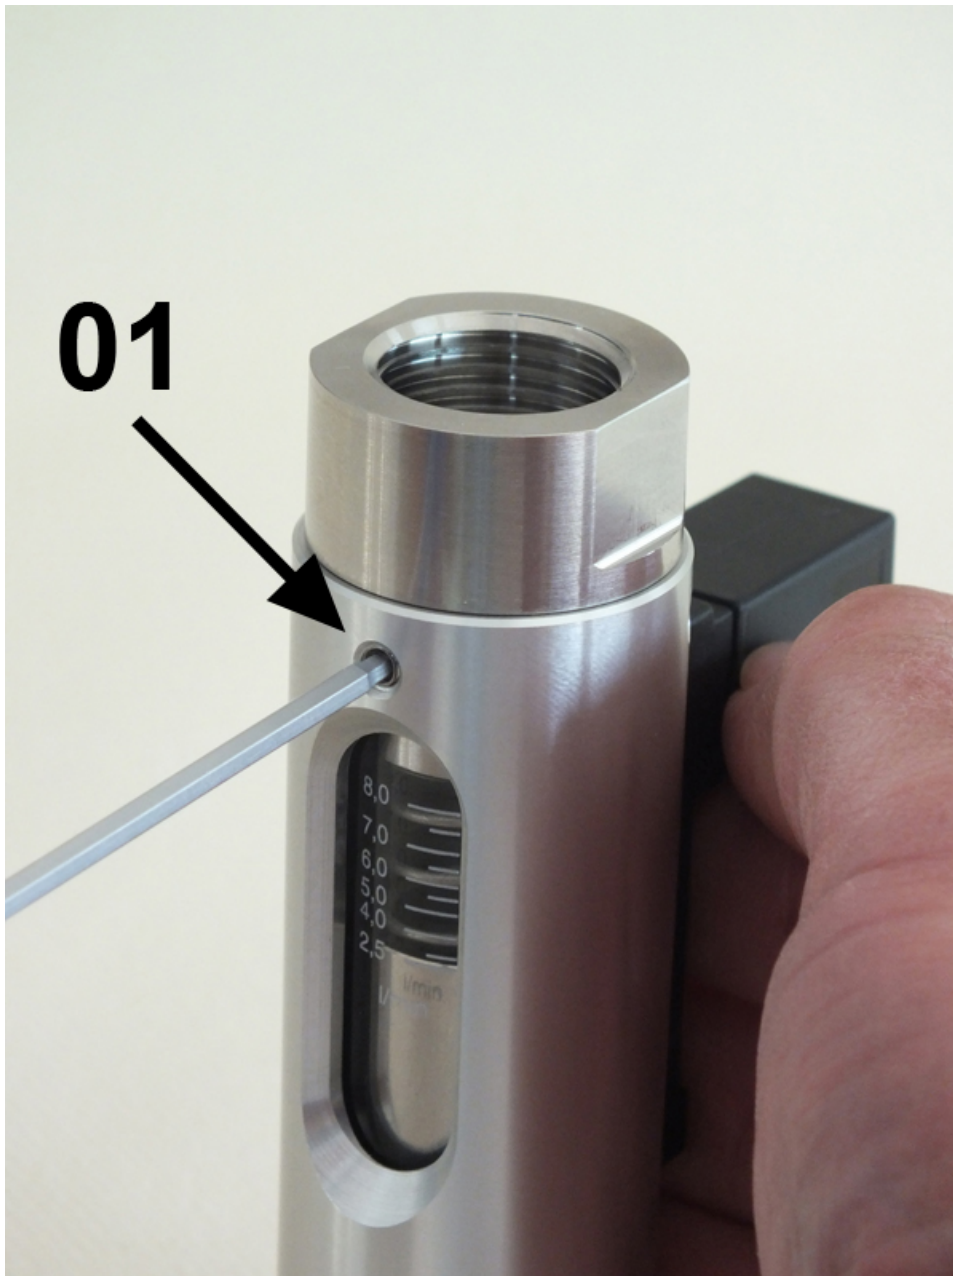

Fig. 51: Tighten hex socket screws
- 14.** Tighten the 3 hex head screws (Fig. 51/01), observing the proper torque (→ Chapter 11.1 "Tightening torque" on page 85).